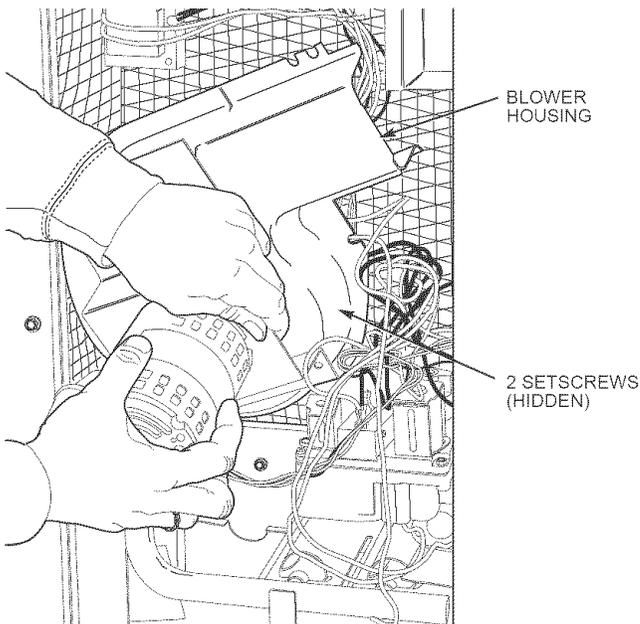

Fig. 26 — Removal of Motor and Blower Wheel
3. Slide the motor and blower wheel assembly out of the blower housing. (See Fig. 26.) Clean the blower wheel. If additional cleaning is required, continue with Steps 4 and 5.
4. To remove blower, remove 2 setscrews. See Fig. 26.